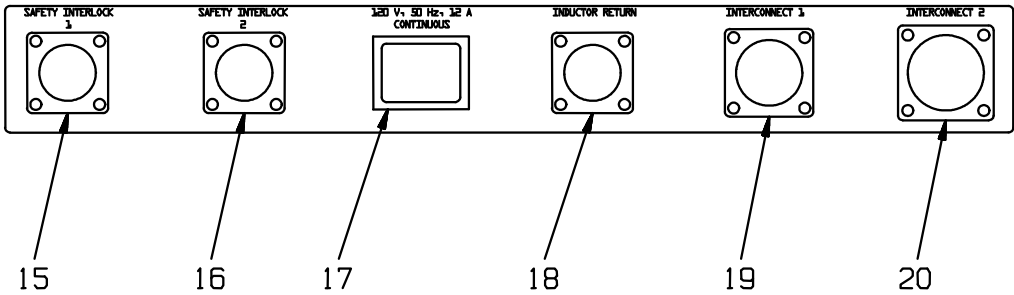

Figure 2: Control Unit Connector Panel (Right)
**Control Unit Connector Panels (Fig. 2, 3, 4)**